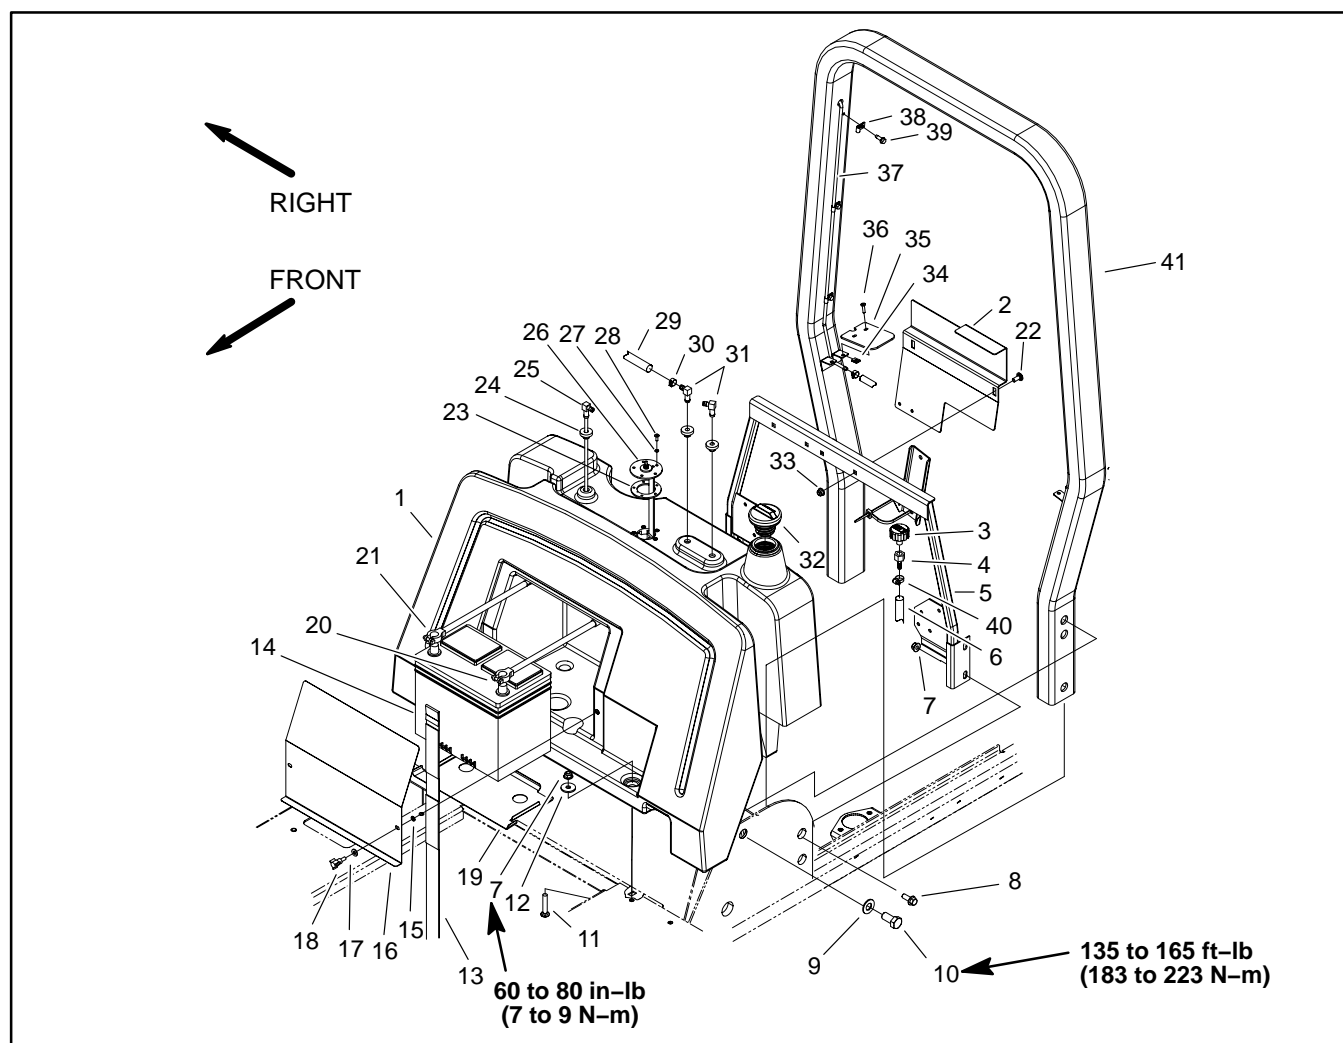

Figure 7
### Fuel Tank Removal (Fig. 7)
7. Remove phillips head screws that secure two (2) tank covers to ROPS assembly. Remove tank covers.
8. Remove fuel tank using Figure 7 as a guide.
1. Install fuel tank using Figure 7 as a guide.
2. Install two (2) tank covers to ROPS assembly.